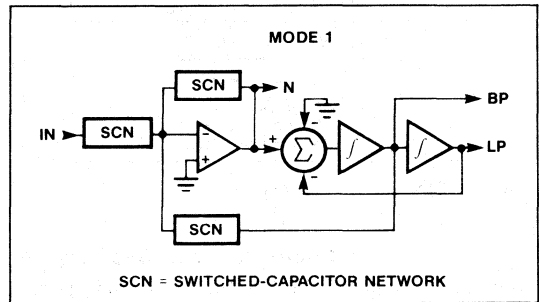

Figure 7. Filter Mode 1: Second-Order Bandpass, Lowpass and Notch
Figures 7 through 11 show symbolic representations of the MAX260 filter modes. Only one second-order section is shown in each case. The A and B sections of one MAX260/61/62 can be programmed for different modes if desired. The  $f_0$ ,  $f_N$  (notch), Q, and various output gains in each case are shown in Table 5.
**MODE 1** (Figure 7) is useful when implementing all-pole lowpass and bandpass filters such as Butterworth, Chebyshev, Bessel, etc.. It can also be used for notch filters, but only second-order notches because the relative pole and zero locations are fixed. Higher order notch filters require more latitude in  $f_0$  and  $f_N$ , which is why they are more easily implemented with Mode 3A.
Mode 1, along with Mode 4, supports the highest clock frequencies (See Table 1) because the input summing amplifier is outside the filter's resonant loop (Figure 7). The gain of the lowpass and notch outputs